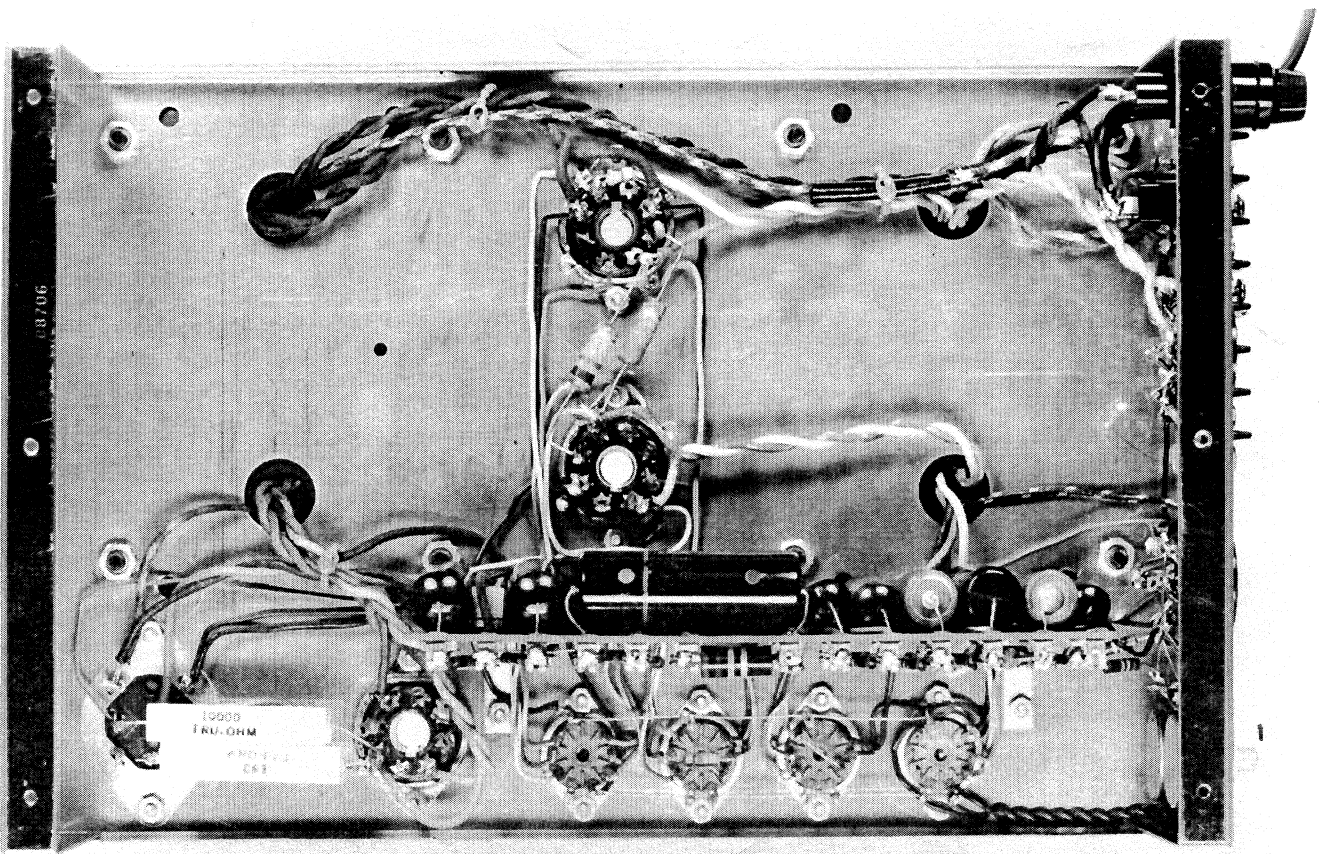

FIG. 12. THE COMPLETED AMPLIFIER, READY FOR THE BOTTOM PLATE AND THE TUBES. CHECK THE STEPS IN STAGE 6 WITH THIS PHOTO
- Note: Fig. 8 shows, in dotted lines, the position of the parts board when it is mounted under the chassis. Compare this with the photograph in Fig. 12.
- With the parts board positioned as in Fig. 12, run this wire through hole C in the parts board.